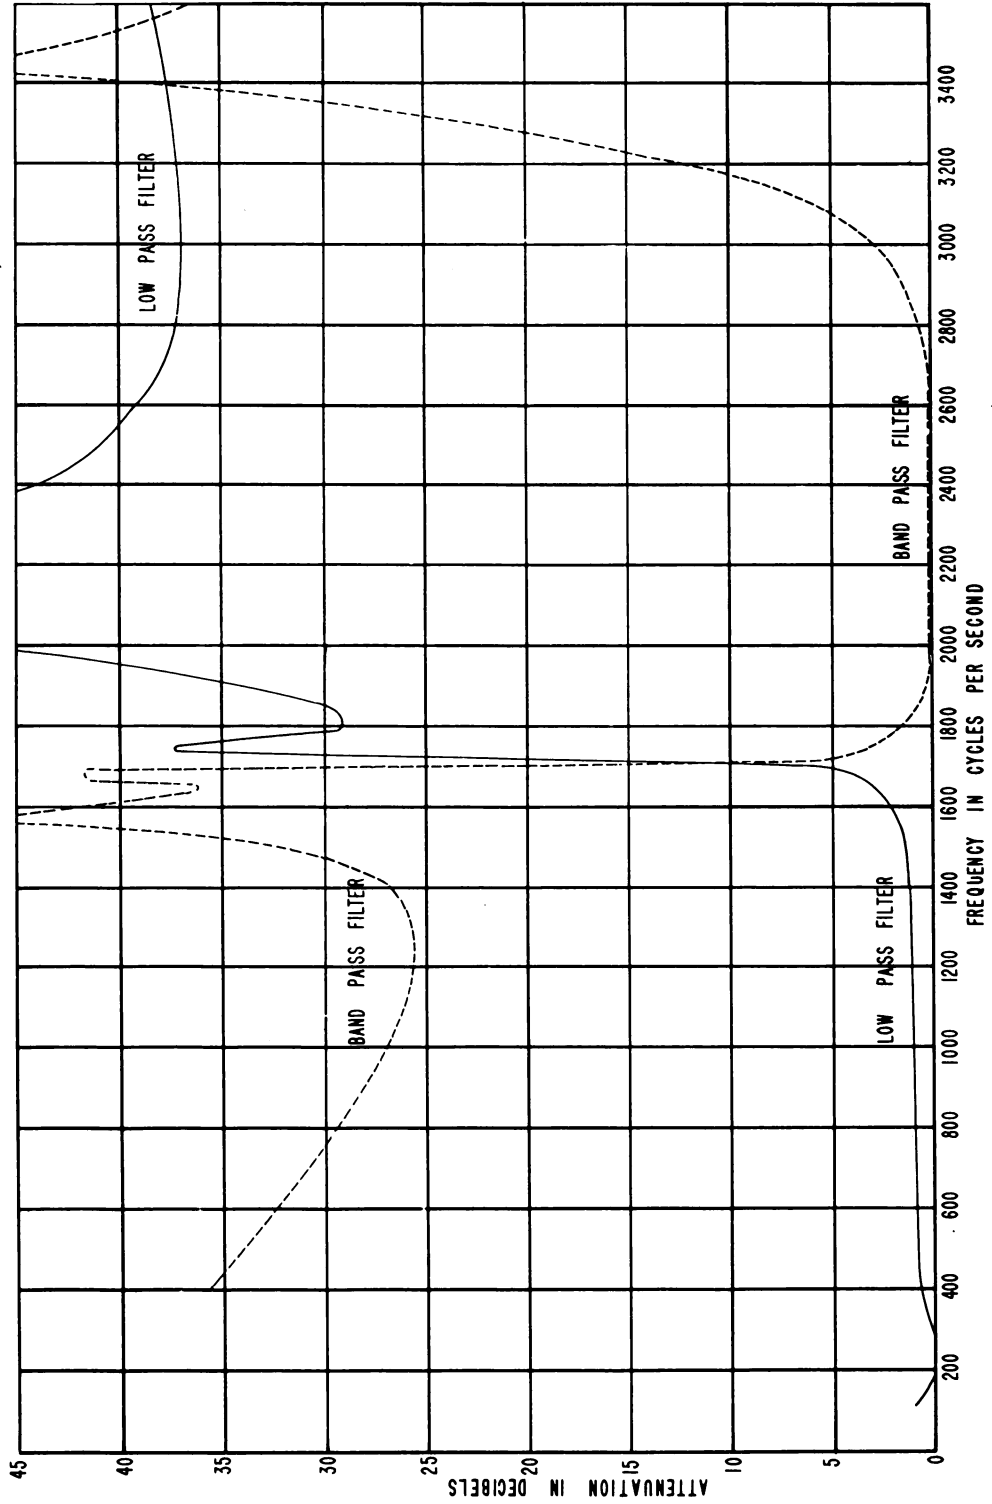

Figure 2-26. Curves Showing the Frequency Response of Group Modulator Band-Pass Filter and Low-Pass Filter
on a 3 db T-pad (used for impedance matching) and 1742.5 to 3017.5 cycle band-pass filter, Z2603, which selects the lower side band of the modulation. These frequencies are then applied to one input of a feedback amplifier, which has provisions for combining, across a common plate load, the converted signals with the normal (or unconverted) signals in the 382.5 to 1657.5 cycle band. Thus, the output of the next amplifier would contain 16 signal frequencies in the range of 382.5 to 3017.5 cycles. A transformer is provided at this point to match the amplifier to the 600 ohm line and isolate the output leads from ground. An **ATTENUATOR** allows the output level to be set at the desired line level. Line jacks are provided on the two incoming lines and on the output line. These jacks allow for the front panel patching of circuits into the equipment other than the circuits normally connected to the rear terminal board. They are also used to measure line levels, although all measurements taken on line jacks must be made with a meter of 600 ohms internal impedance. A high impedance meter must be used on the output monitor jacks, the 85 cycle jacks, and the 3400 cycle jacks. As seen on the frequency response curve of filter Z2603 shown in figure 2-26, the output levels of the channels lying near the cut-off frequencies of the filter will be less than the center frequency channels by about 3 db.
c. **MODULATOR AND FILTER CIRCUITS.** - As shown on the schematic diagram of the Electronic Frequency Converter CV-244/FCC-3, figure 7-21, the incoming signal is transformed with a 1:1 line isolation transformer T2702 and attenuated with a front panel variable **ATTENUATOR** R2756. This **ATTENUATOR** is used to set line levels at approximately 1 dbm, the normal maximum level on a fading radio circuit. The signals to be converted are transmitted by the band-pass filter Z2702 and applied to the ring modulator where they are mixed with 3400 cps carrier voltage. This ring modulator operates in a similar manner to the one described for the Electronic Frequency Converter CV-243/FCC-3. Signals below 1657.5 cycles are passed by filter Z-2703 (frequency response curve shown in figure 2-26) and applied to the amplifier.
The Electronic Frequency Converter CV-243/FCC-3 uses a band-pass filter with a response curve as shown on figure 2-26. This filter selects the converted signals in the frequency range of 1742.5 cps to 3017.5 cps at the output of the modulator bridge and transmits these
The Electronic Frequency Converter CV-244/FCC-3 uses the same band-pass filter as used in the Electronic Frequency Converter CV-243/FCC-3 and a low-pass filter. The frequency response curves of these filters are shown in figure 2-26. The band-pass filter is used